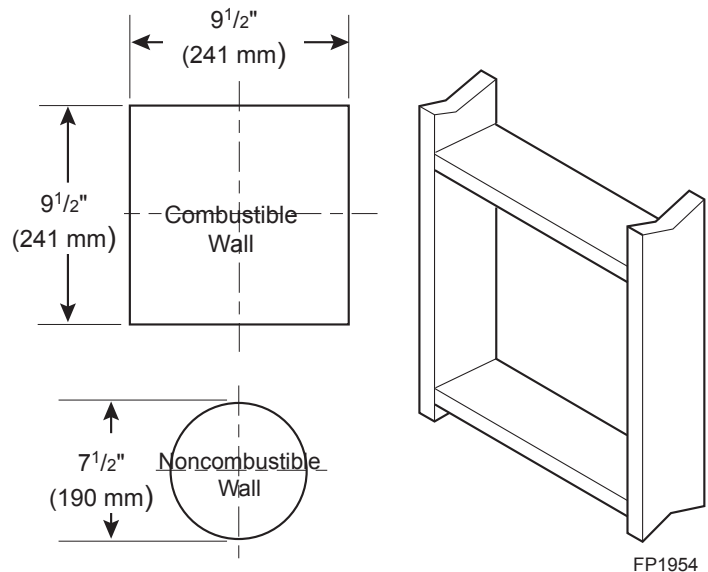

Figure 26 - Exterior Wall Framing Dimensions for 4" x 6⅝"
Combustible Exterior Walls: Cut a 9½"H x 9½"W square hole through the exterior wall frame. *Figure 26*
2. The center of the hole should line up with the center line of the horizontal rigid vent pipe end. Allow ¼" minimum rise per foot. *Figure 26*